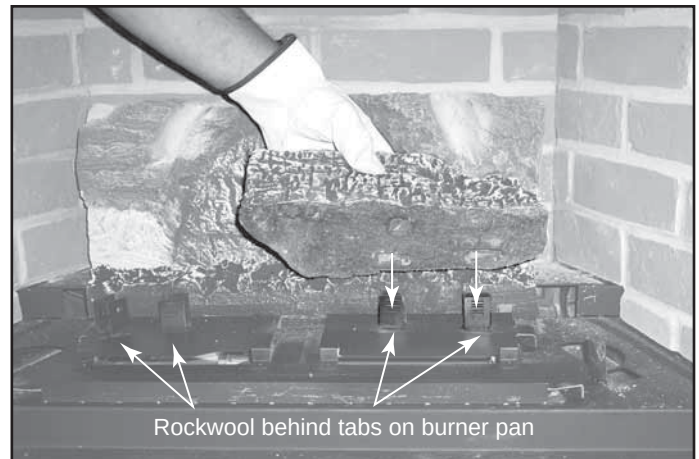

Figure 15.8 Position Log #4061-172
- Position the slots in the log over the tabs in front of the rear burner. See Figure 15.8.